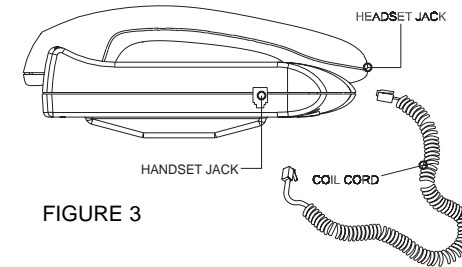

FIGURE 3
- 1) Plug one end of the handset coiled cord into the handset. Plug the other end of the cord into the handset jack located on the left side of the phone base. (Refer to figure 3.)
- 1) Plug one end of the handset coiled cord into the handset. Plug the other end of the cord into the handset jack located on the left side of the phone base (please refer to figure 3.)